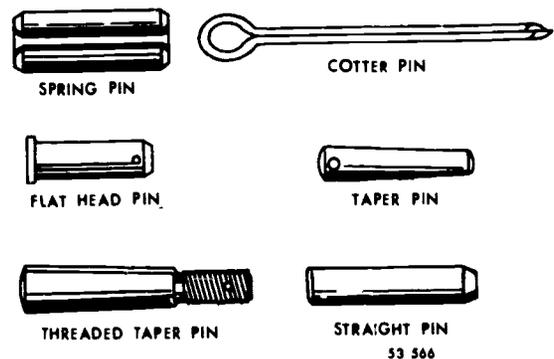

Figure 126. Pins.
d. Pins. Pins are used to retain parts in a fixed position and to maintain alignment. The most common types are the flathead, plain and threaded taper, cotter, straight, and spring pins, as shown in figure 126.